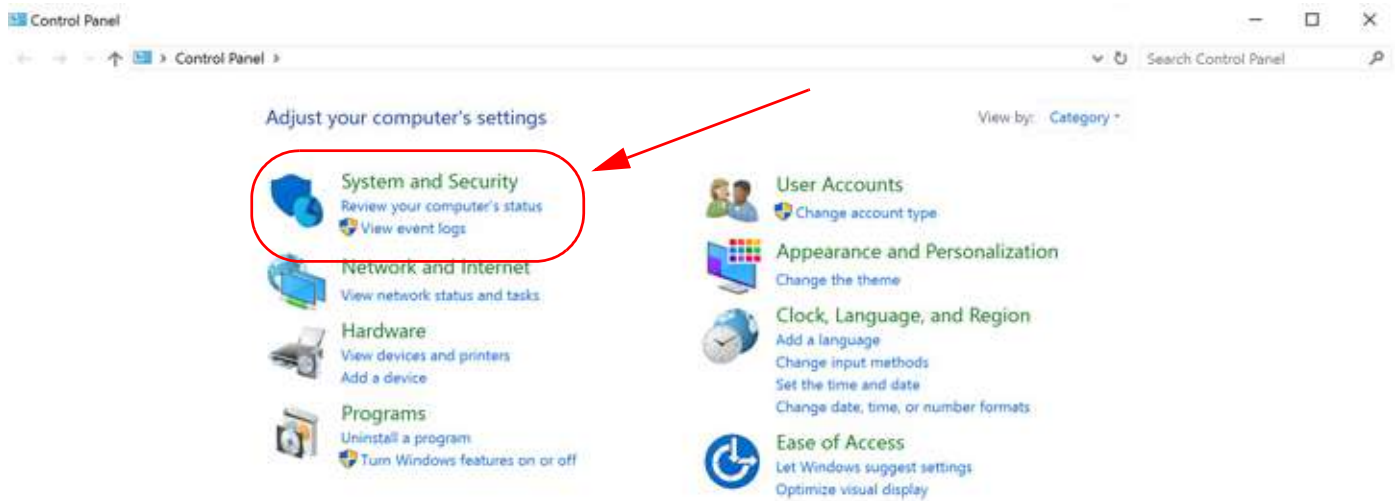

Figure 3.2: Windows Server 2016/2019: Control Panel -> System and Security Screen
2. From the Control Panel, select the “Systems and Security” screen. See Figure 3.2.